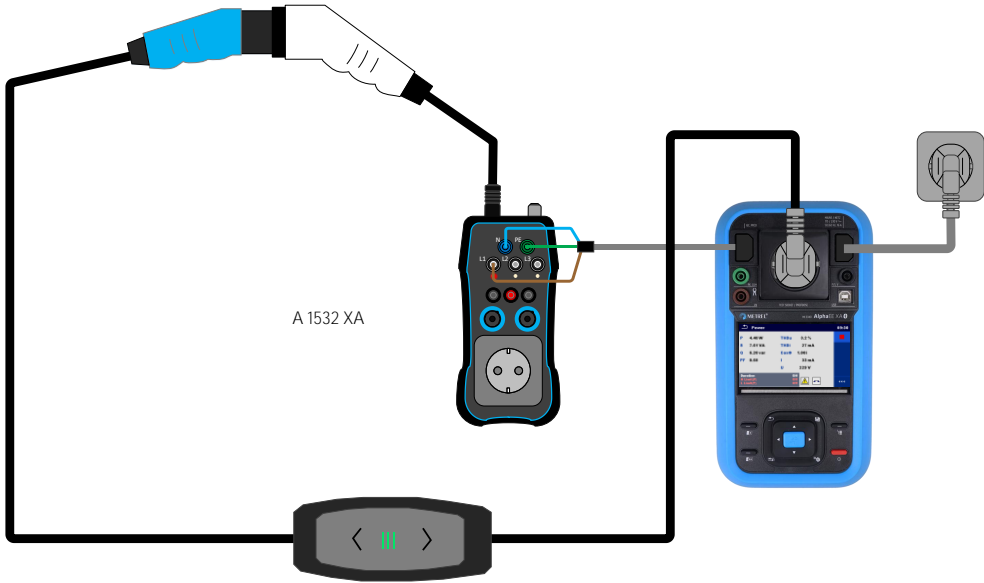

Figure 56_Mode 2 cable connection
- Connect the charging cable to the EVSE adapter (A 1532 XA) (see Figure 56_Mode 2 cable connection).